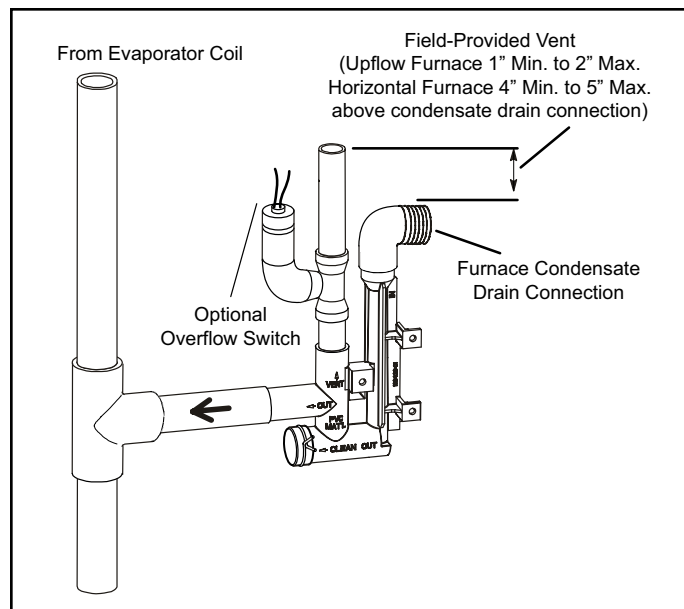
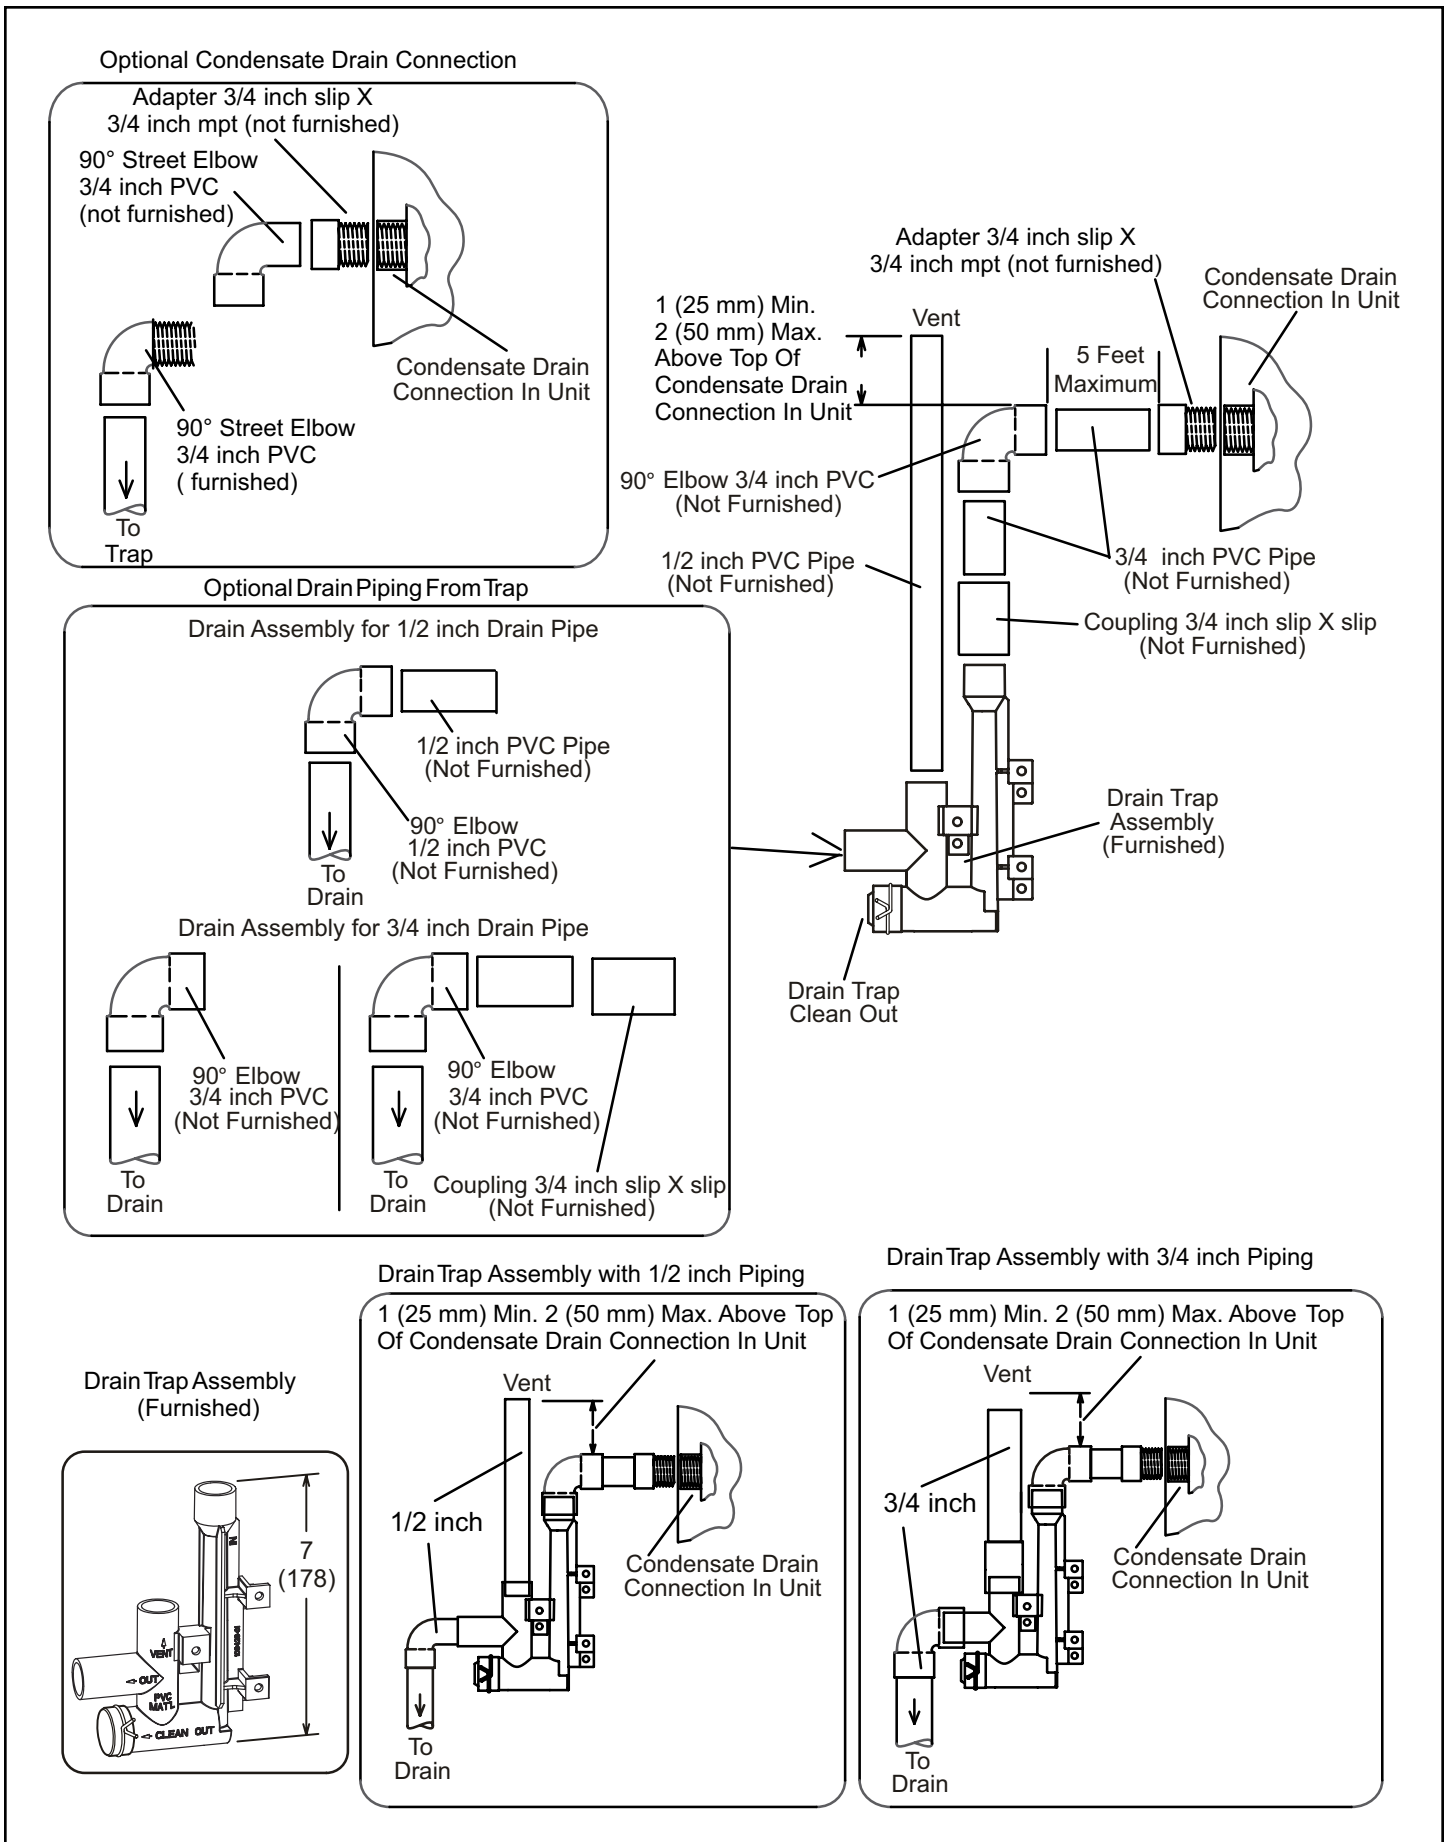

Figure 45. Condensate Trap with Optional Overflow Switch
Figure 46. Trap Drain Assembly Using 1/2" PVC or 3/4" PVC
5. Figure 45 shows the furnace and evaporator coil using a separate drain. If necessary, the condensate line from the furnace and evaporator coil can drain together. See Figure 46. The field provided vent must be a minimum 1" to a maximum 2" length above the condensate drain outlet connection.